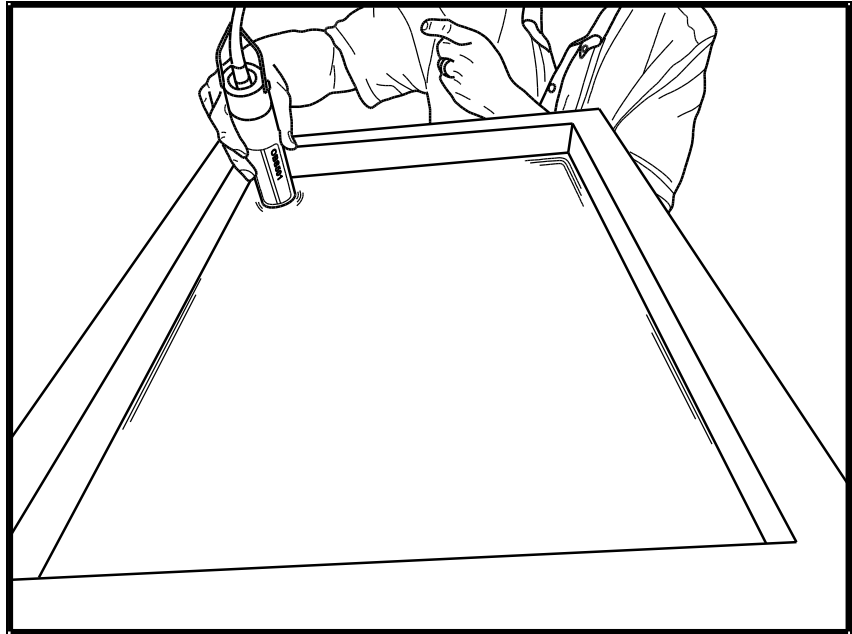

Figure 8-3. Position of OBS501 in clean tap water in big black tub
1. Swab sensor with an alcohol-soaked towel to sterilize it. Position the OBS sensor in a large, black tub of fresh tap water as shown in Figure 8-3 and record a 10 s average of the low-range output. Record the average output on the calibration log sheet.
1. Record and log the clean-water signal as in Step 1, Section 8.6.1, *Turbidity* (p.22); see Figure 8-3, *Position of OBS501 in clean tap water in big black tub* (p. 25). Use the same value, such as, sidescatter, backscatter, or ratio throughout the calibration.